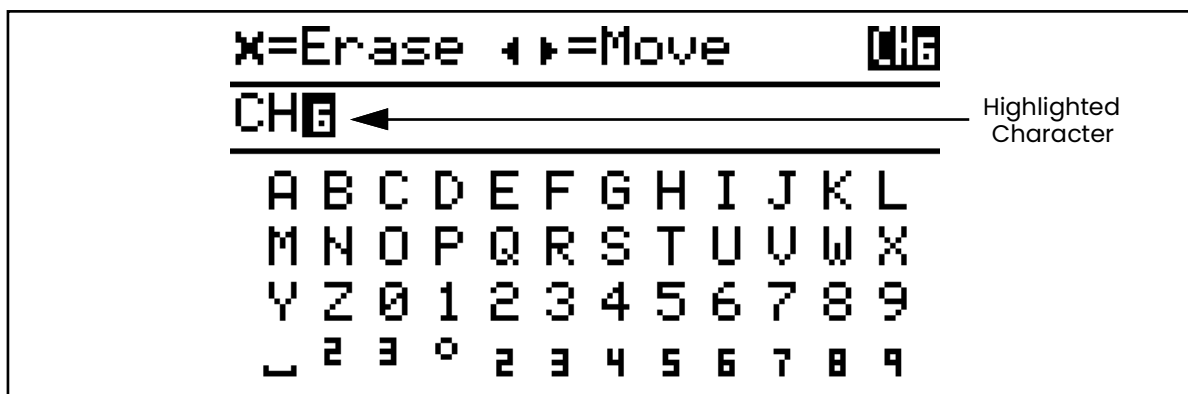

Figure 15: Text Edit
- Pressing the Down arrow will move the highlight to the Text Edit section (see *Figure 15* below):